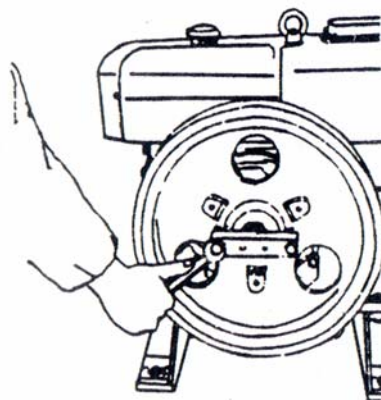
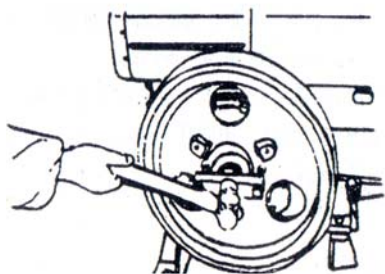

Fig. 3 Removing the flywheel by means of the puller
Fig. 4 Knocking the center of the bridge of the puller by means of a hammer.
4. Pull -out the flywheel by means of the puller. A hammer may be used to knock the center of the bridge of the puller if the flywheel is difficult to pull out (Fig. 3, Fig. 4).